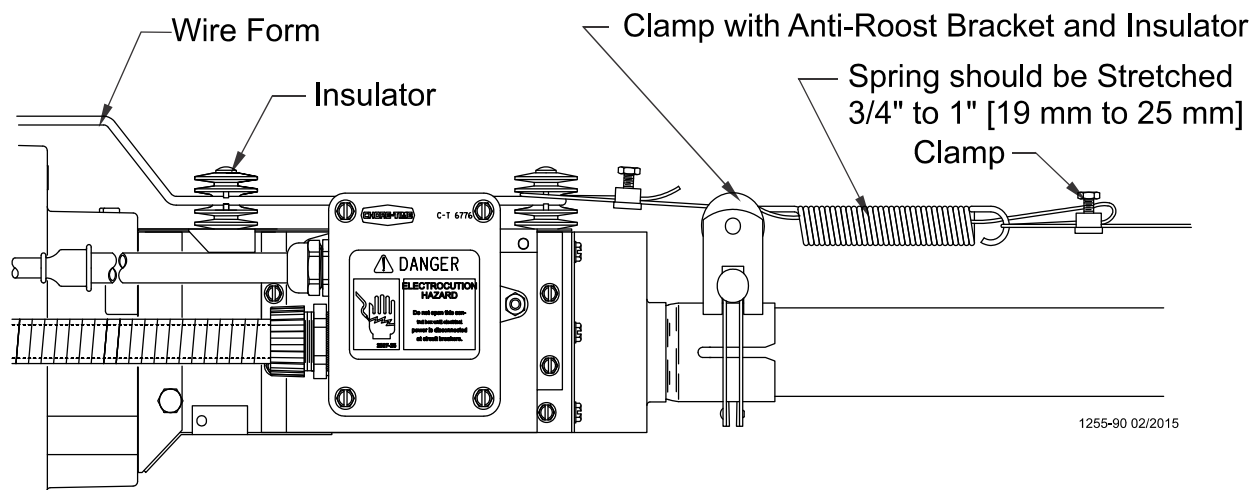

Figure 47. Anti-Roost Installation at the Control Unit
9. At the control unit, after clamping the cable to the spring, cut the cable about 8" to 10" [200 to 250 mm] longer than necessary. Feed the end of the cable through the center of the spring, around the first insulator on the control unit, and clamp the cable using the cable clamp supplied with the control unit. See **Figure 47**.
10. Install the wire form on the control unit insulators. Be sure the guard snaps into the retainers molded into the insulators. See **Figure 47**.